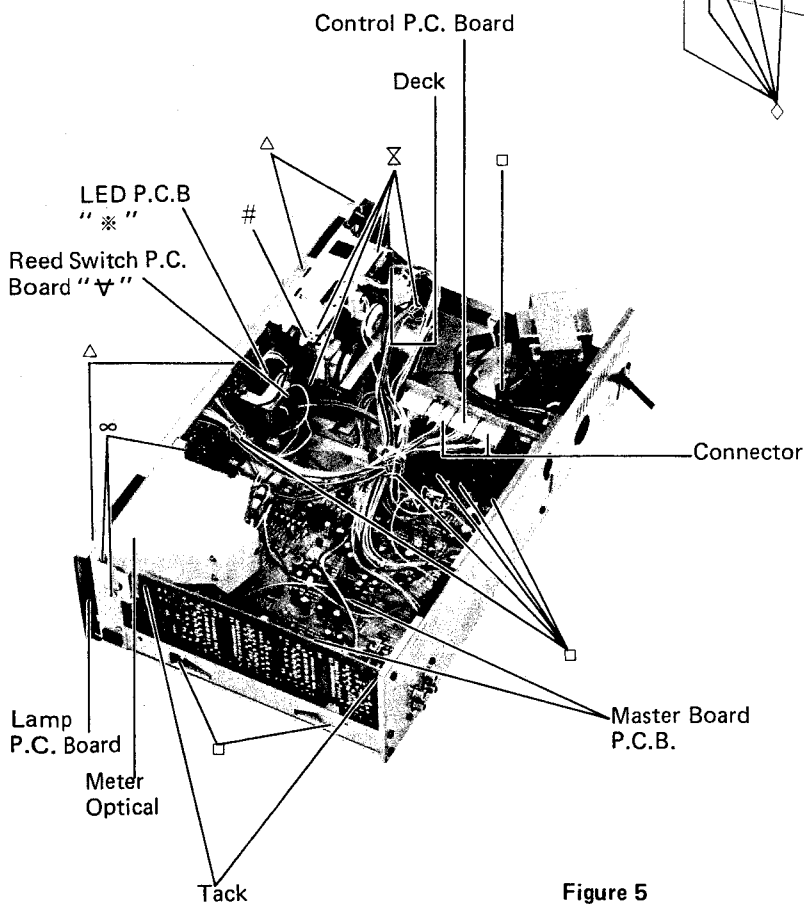

Figure 5
- (1) After removal of top cover, remove one screw marked "#" as shown in Figure 5.
- (2) Remove two connectors as shown in Figure 5.
- (3) Remove seven screws marked "△" as shown in Figure 5 and 6.
- (1) After removal of top cover and front panel, remove three screws marked "∞" as shown in Figure 5.
- (2) Then remove meter optical with the Lamp P.C. Board.
- (3) Disconnect all wires from the meter optical and Lamp P.C. Board.
- (1) After removal of top cover, rear cover and front panel, remove ten screws marked "□" from the master board P.C. Board as shown in Figure 5 and 7.
- (3) Remove two tacks as shown in Figure 5.
- (4) Then remove master board P.C. Board with the control P.C. Board.
- (5) Disconnect all wires from the master board P.C. Board and control P.C. Board.
- (6) Their P.C. Board can be completely removed from the chassis.
- (1) Remove one screw marked "▽" as shown in Figure 5.
- (2) Disconnect all wires from the reed switch P.C. Board.
- (1) Remove one screw marked "※" as shown in Figure 5.
- (2) Disconnect all wires from the L.E.D. P.C. Board.
- (2) Remove four screws marked "⊗" as shown in Figure 5.
- (3) Disconnect all wires from the cassette deck.
- (4) The cassette deck can be completely removed from the chassis.